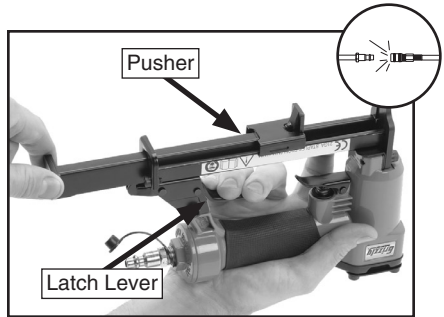

Figure 7. Opening stapler magazine.
2. Depress the magazine latch lever and slide the magazine pusher back (see **Figure 7**).